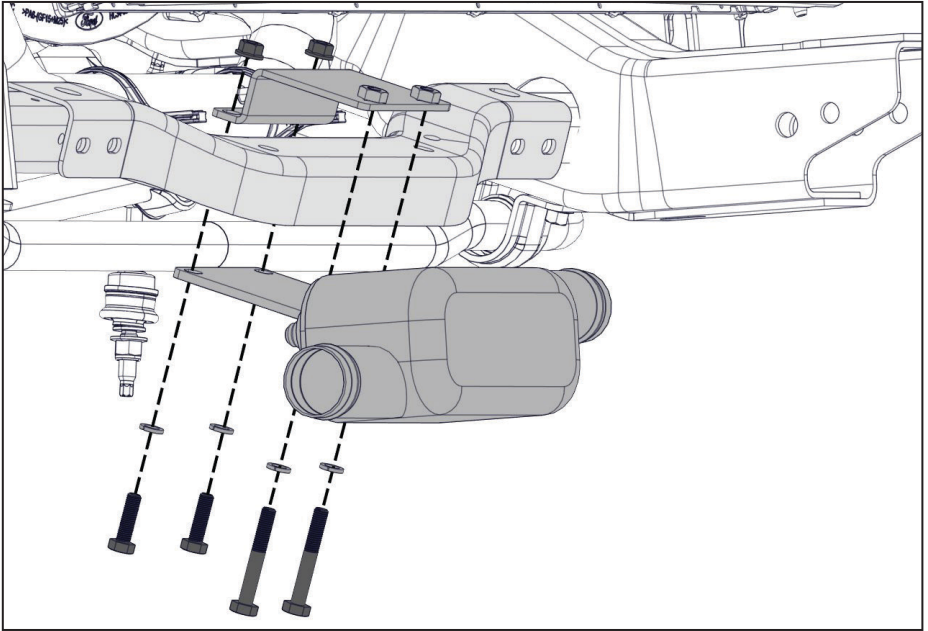

Figure 6 — Install cooler
- ☐ Mount the cooler to the cooler bracket (Figure 6).